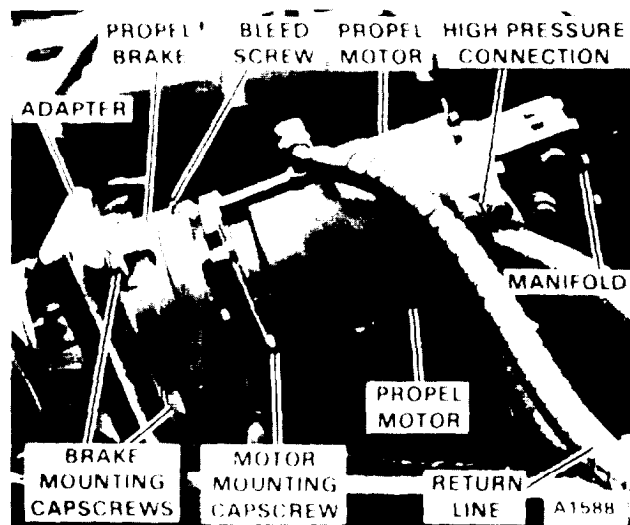

Figure 9C-1. Propel Brake Location
**REMOVAL.** To remove a propel brake, proceed as follows (see Figure 9C-1):
**DISASSEMBLY.** To disassemble the propel brake, proceed as follows (see Figure 9C-2):
2. Alternately remove capscrews (23) to release plate (19).
3. Pull packing (05), and all discs, springs, and pins from housing (04).